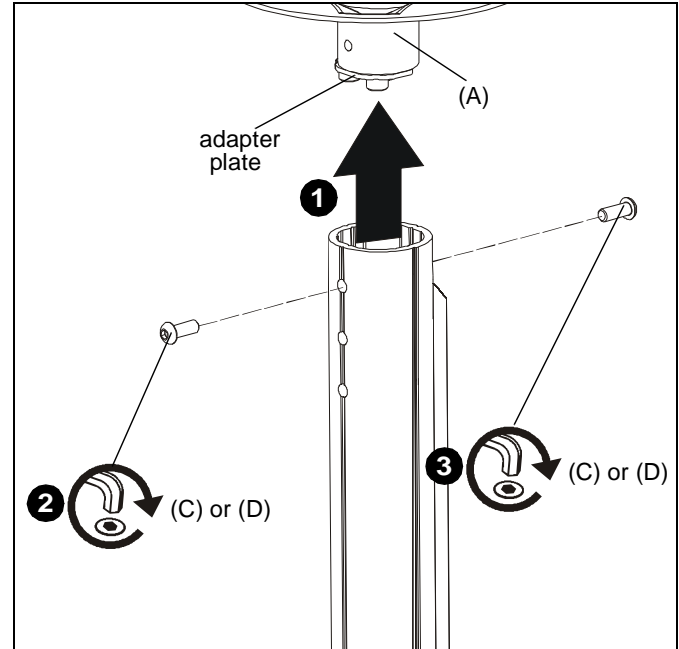

Figure 4
1. Making sure holes on extension column (not included) and CPA115 mount (A) are aligned, install column onto CPA plate adapter. (See Figure 4)
2. Install either one M6x16 button head screw (C) or security screw (D) into hole on side of CPA pipe where the adapter plate on CPA adapter is located. (See Figure 4)
3. On the opposite side of CPA pipe, use the other M6x16 button head screw (C) or security screw (D) to secure CPA115 to extension column. (See Figure 4)